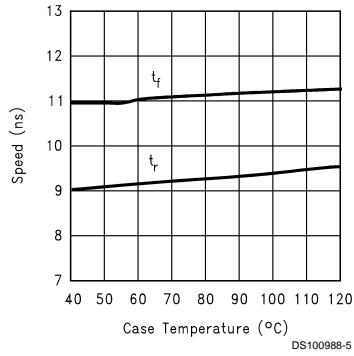

FIGURE 4. Speed vs Temperature
*Figure 4* shows the performance of the LM2439 in the test circuit shown in *Figure 2* as a function of case temperature. The figure shows that the rise time of the LM2439 increases by approximately 3% as the case temperature increases from 50°C to 100°C. This corresponds to a speed degradation of 0.6% for every 10°C rise in case temperature. The fall time increases by approximately 3% which corresponds to a speed degradation of 0.6% for every 10°C rise in case temperature.